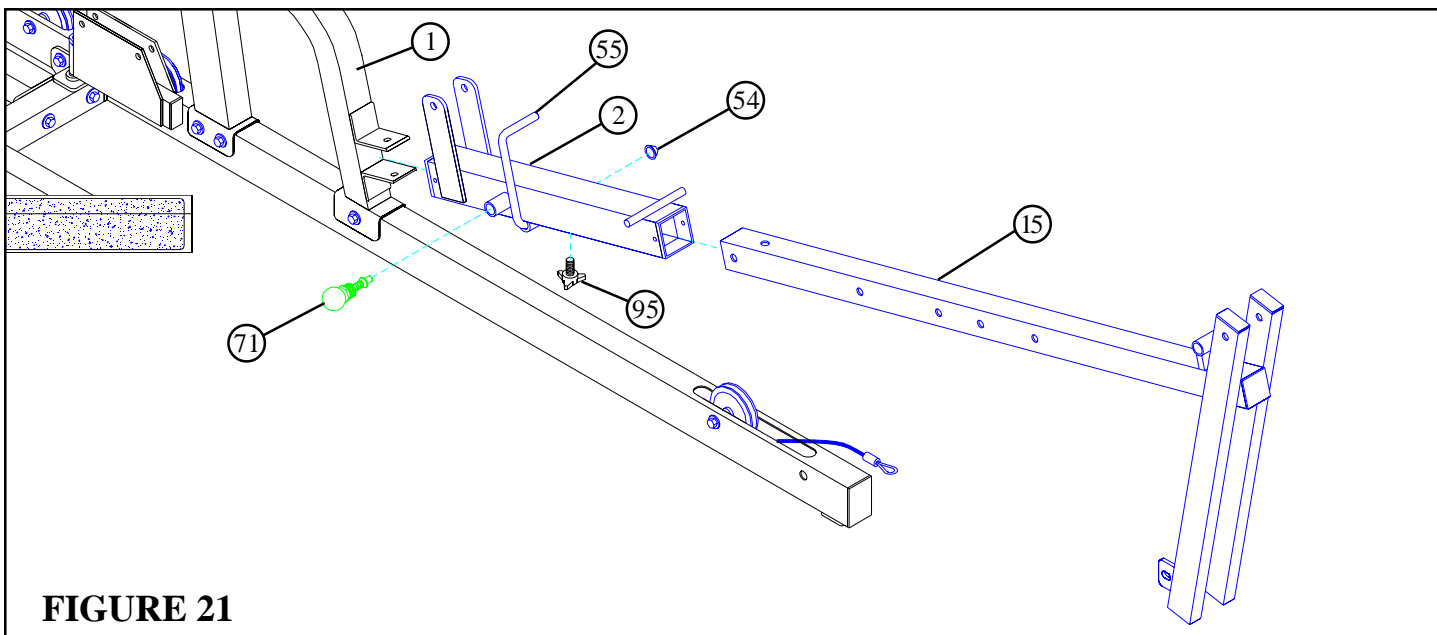

FIGURE 21
- Slide the 1/2" DIA U-PIN (55) through the bushing in the WOLFF SLEEVE (2) then force 1/2" PAL NUT (54) over end of 1/2" DIA U-PIN (55).
- Slide the WOLFF SLEEVE (2) over the BENCH FRAME (15). (**NOTE: Make sure the spring pin barrel is facing as shown in FIGURE 21.**)
- Slide the BENCH FRAME (15) between the angles on the FRAME SUPPORT (1).
- Securely assemble one 3/8" SPRING PIN ASSEMBLY (71) and one THUMBSCREW (95) to the WOLFF SLEEVE (2).